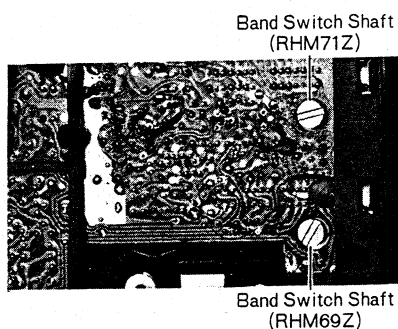

Fig. 7
1. Set the band switch shaft at the position (SW, SW₁), as shown in fig. 7.